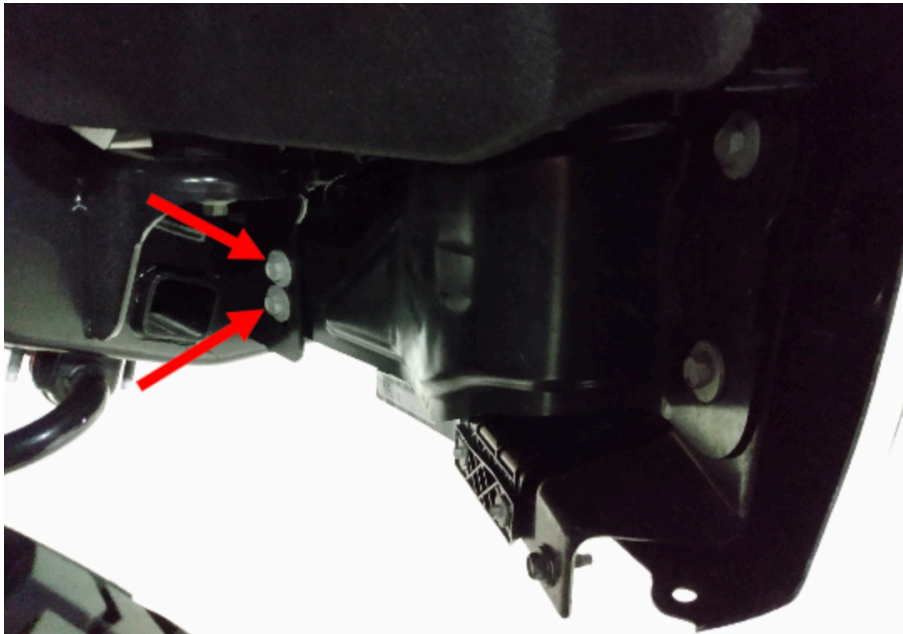

Figure 7
7. Using a 15mm socket wrench, remove the two (2) bolts per side that attach the bumper reinforcement brackets to the frame. Figure 7